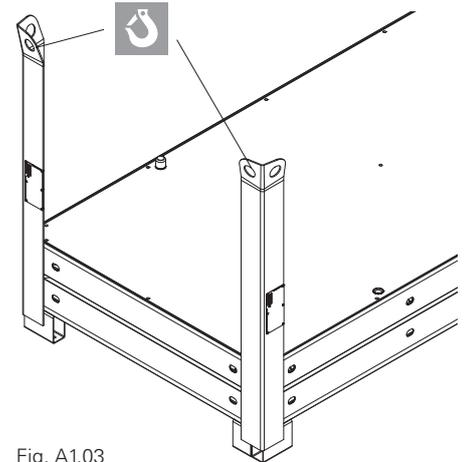

Fig. A1.03
2. Insert the second and additional panels with the formlining facing upwards in the stacking devices. (Fig. A1.03)